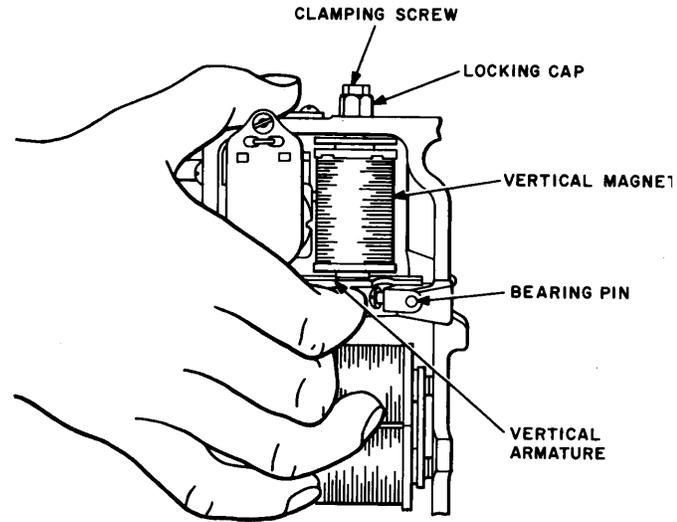

Fig. 16—Method of Supporting Vertical Armature While Replacing Bearing Pin
- (1) To replace the vertical armature bearing pin clamp and bearing pin, disengage the vertical armature spring from the "T" head of the adjusting screw and swing the spring to the right until it clears the head of the screw. Loosen the bearing pin clamp screw with the 4-inch E screwdriver or with the 556A wrench. If only the bearing pin clamp is to be replaced, tap the vertical armature bearing pin from left to right with the 1/16-inch pin punch and, where necessary, with the 4-ounce riveting hammer until the pin disengages the bearing pin clamp; then replace the clamp. If the bearing pin is to be replaced, tap it until it can be withdrawn from the right-hand side of the switch by means of the fingers or with a pair of 485A pliers.
- (2) Insert the new bearing pin from the left-hand side of the switch, guiding the vertical armature with the right hand as shown in Fig. 16 so that the pin engages the hole in the armature. After the pin has engaged the hole in the right-hand side of the armature, place the bearing pin clamp in position and adjust the armature and the clamp so that the pin enters the hole in the clamp. Tap with the hammer. When the pin is in position, tighten the bearing pin clamp screw and replace the armature spring on the "T" head of the armature spring adjusting screw.